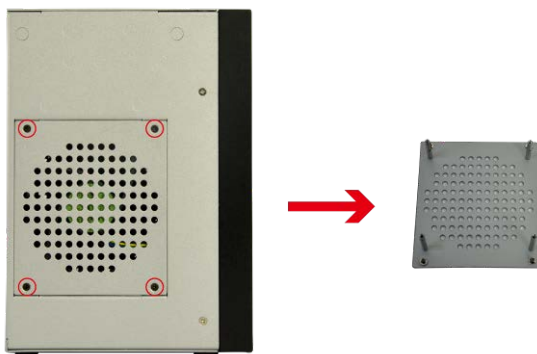

Figure 3-4: Fan Bracket
Step 1: Remove the four screws on the rear. Lift the fan bracket and place it on a flat surface (**Figure 3-4**).